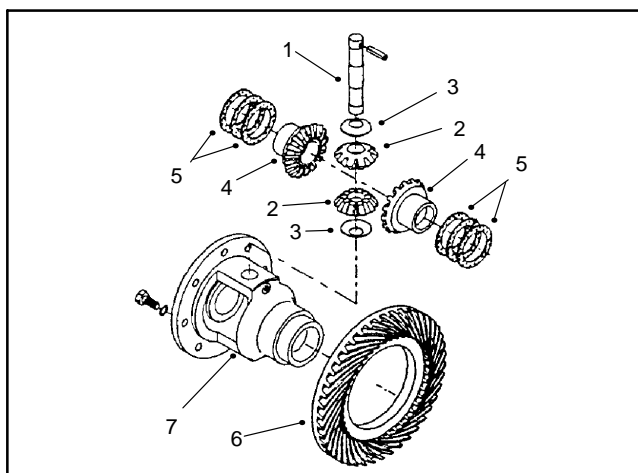

Figure 33
7. Remove the differential pinion shaft, pinion gears and pinion washers. Remove the differential side gears and side gear shims. Remove the ring gear only if it will be replaced (Fig. 33).